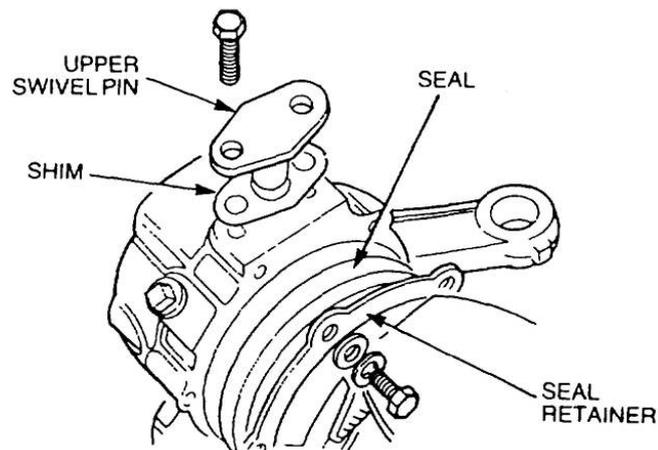

Figure 270 Removal of the Swivel Housing Oil Seal
- e. Remove the six bolts securing the seal retainer and seal to the swivel housing (Figure 270).
- g. Remove the two bolts and washers retaining the upper swivel pin, hose retaining bracket and shims (Figure 270).